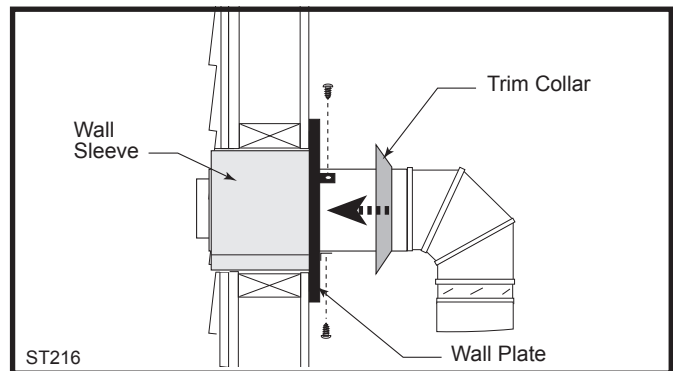

**Fig. 26** Measure the horizontal length.
7. Measure, and cut if needed, the appropriate length of pipe section needed to make the connection through the wall. Include a 2" overlap; i.e. from the elbow to the outside wall face, about 2" or the distance required if installing a second 90° elbow. (Fig. 26)